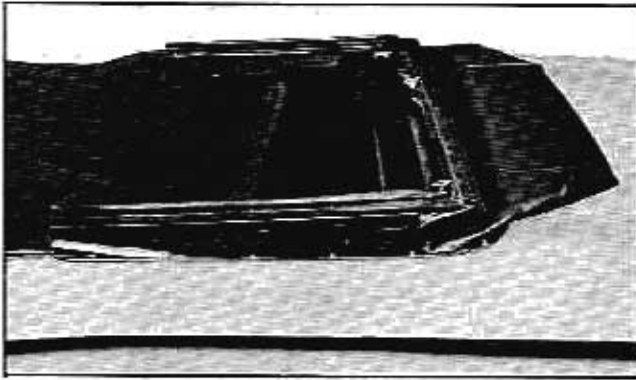

Fig. 7-8 Fold Corners of Top Material
8. Fold over corners of top material (Fig. 7-8).